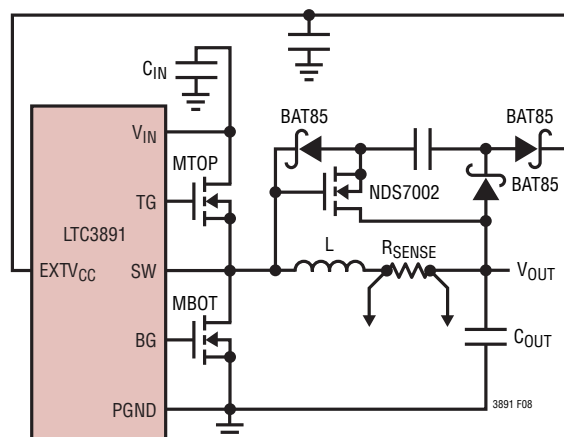

Figure 8. Capacitive Charge Pump for EXTV_{CC}
4. **EXTV_{CC} Connected to an Output-Derived Boost Network.** For 3.3V and other low voltage regulators, efficiency gains can still be realized by connecting EXTV_{CC} to an output-derived voltage that has been boosted to greater than 4.7V. This can be done with the capacitive charge pump shown in Figure 8. Ensure that EXTV_{CC} < V_{IN}.